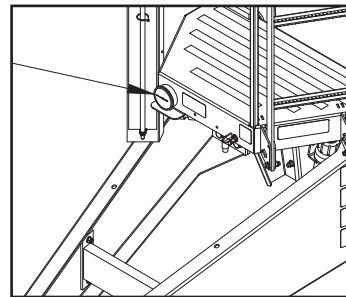

Figure 29
9. Increase very slowly the flow of the #1 distributor of the tractor while observing the spraying pressure changes on the main pressure gauge. **(figure 29)** The sprayer pressure must never exceed 150 psi.